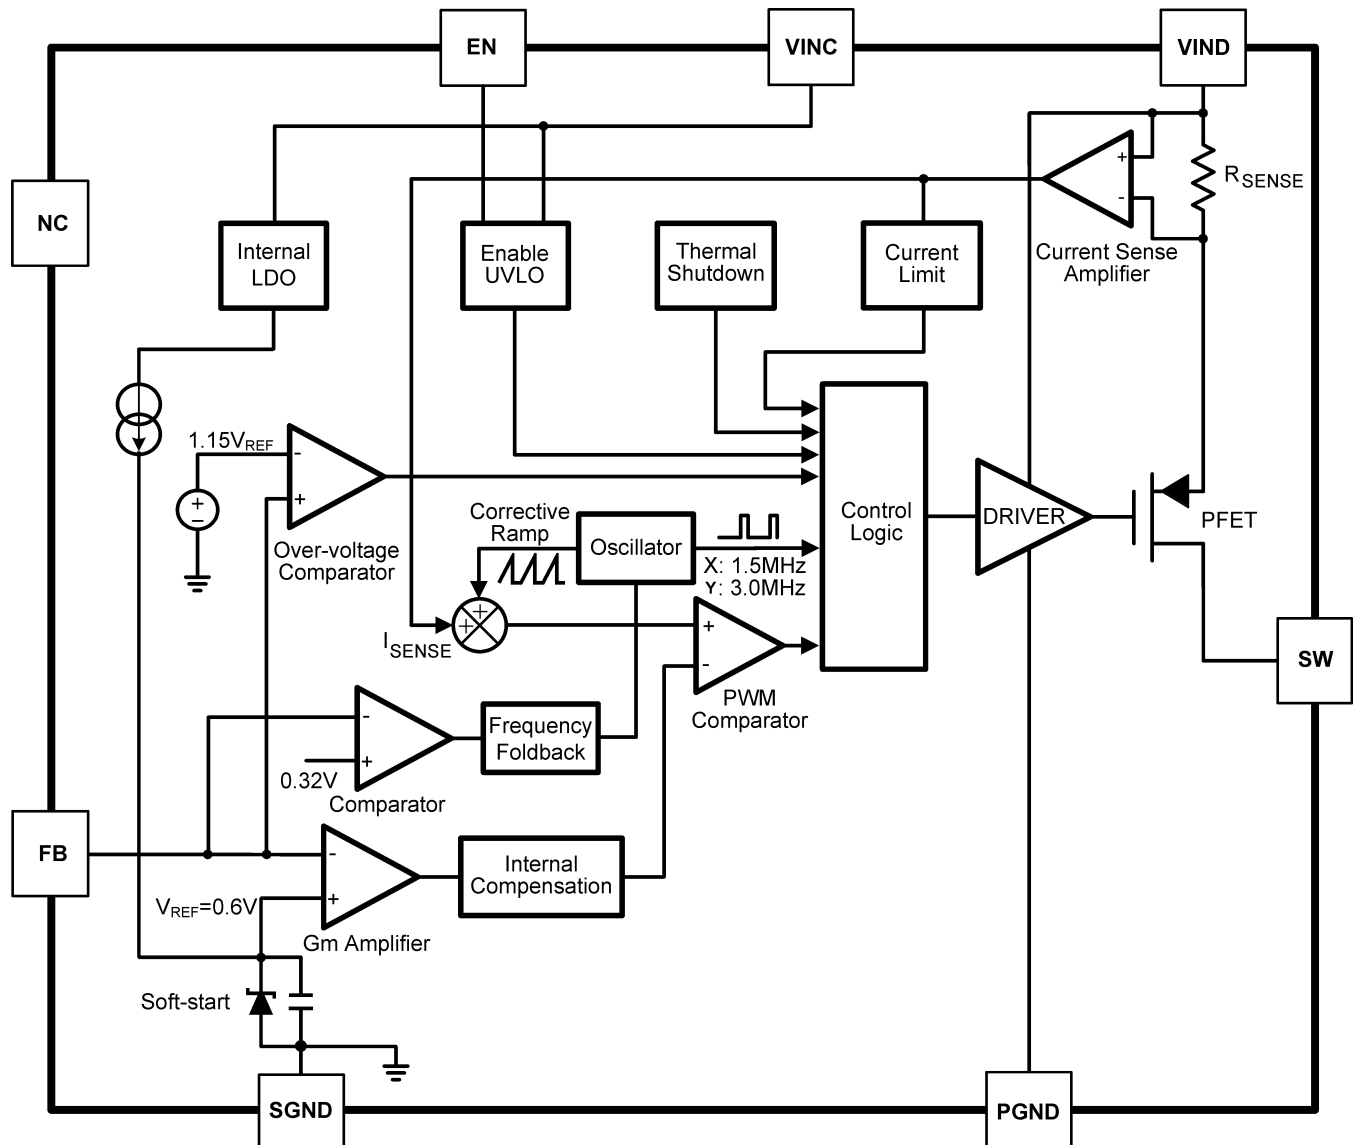
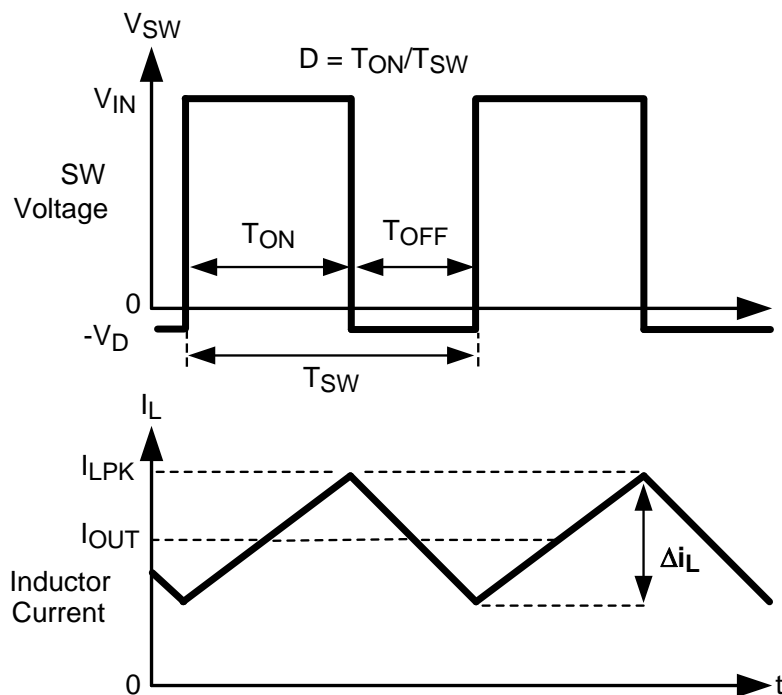

Figure 22. Simplified Block Diagram
Figure 23. SW Pin Voltage and Inductor Current Waveforms
The LMR10530 is a constant frequency PWM buck regulator IC that delivers a 3.0A load current. The regulator is available in preset switching frequencies of 1.5MHz or 3.0MHz. This high frequency allows the LMR10530 to operate with small surface mount capacitors and inductors, resulting in a DC/DC converter that requires a minimum amount of board space. The LMR10530 is internally compensated, therefore it is simple to use and requires few external components. The LMR10530 uses peak current-mode control to regulate the output voltage. The following description of operation of the LMR10530 will refer to the Typical Application Circuit, to the waveforms in Figure 23 and simplified block diagram in Figure 22. The LMR10530 supplies a regulated output voltage by switching the internal PMOS power switch at a constant frequency and variable duty cycle. A switching cycle begins at the falling edge of the reset pulse generated by the internal oscillator. When this pulse goes low, the output control logic turns on the internal PMOS power switch. During this on-time, the SW pin voltage (V_{SW}) swings up to approximately V_{IN} , and the inductor current (I_L) increases with a linear slope. I_L is measured by the current sense amplifier, which generates an output proportional to the switch current. The sense signal is summed with the regulator's corrective ramp and compared to the error amplifier's output, which is proportional to the difference between the feedback voltage and V_{REF} . When the PWM comparator output goes high, the internal power switch turns off until the next switching cycle begins. During the switch off-time, the inductor current discharges through the catch diode D1, which forces the SW pin to swing below ground by the forward voltage (V_D) of the catch diode. The regulator loop adjusts the duty cycle (D) to maintain a constant output voltage.
The inductor value determines the output ripple current (ΔI_L , as defined in Figure 23). Lower inductor values decrease the size of the inductor, but increase the output ripple current. An increase in the inductor value will decrease the output ripple current. In general, the ratio of ripple current to the output current is optimized when it is set between 0.2 and 0.4 for output currents above 2A. This ratio r is defined as: